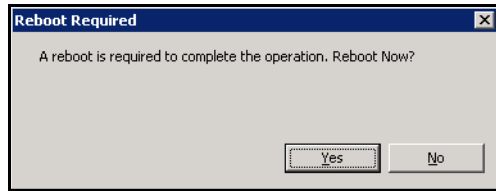

Figure 2-5: Reboot Required Message
6. Click the **OK** button. The Reboot Required message in Figure 2-5 appears.